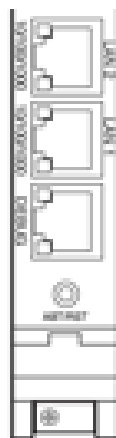

Figure 5. SBC Front Panel Connections for the mvme6100.
2. Connect the serial cable for the IOC Console. Figure 5 shows the bottom of the front panel of an mvme6100 SBC, and the jack labeled DEBUG is for the serial console cable. The mvme5500 looks similar, but the console jack is labeled COM1 instead of DEBUG.